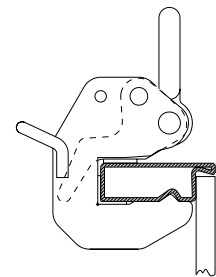

Fig. 24.3
3. Release the safety lever and press it back to its start position so that the crane hook is locked completely (Fig. 24.3).